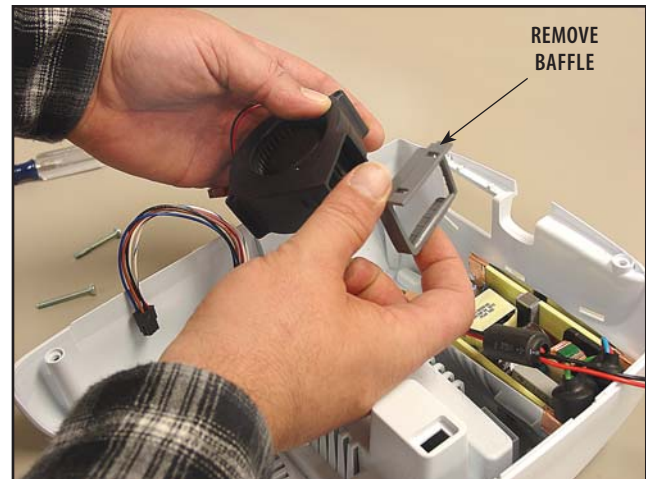

FIGURE 6.5
3. Remove the Fan Baffle from the Fan Housing. **See Figure 6.5.**